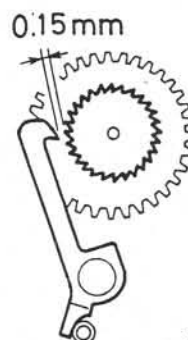

Fig. 32-2
5. Adjust the clearance to be 0.05 - 0.15mm by turning the Adjusting cam (B216). Refer to Fig. 32-2.